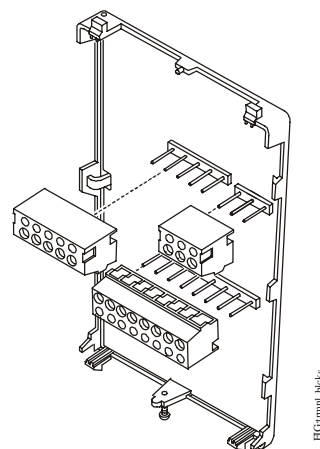

Figure 5: Screw Terminal Blocks
8. Remove the screw terminal blocks that are attached to a disposable adhesive to the display. Figure 5 illustrates the locations of the screw terminal blocks on the zone controller.